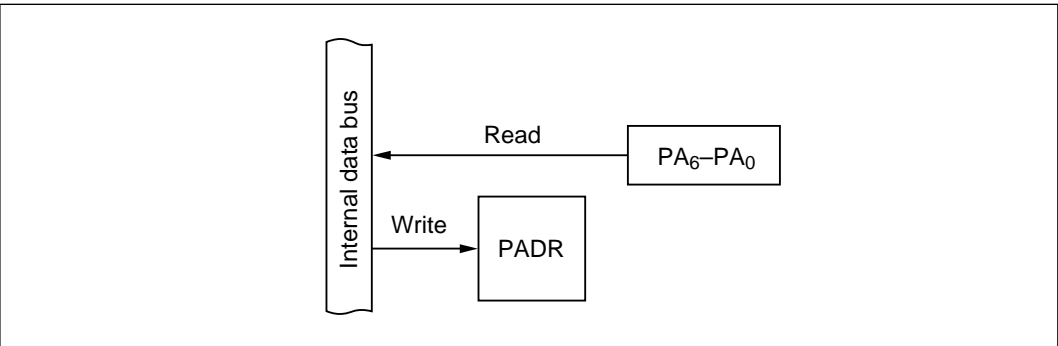

Figure 10-63 Input Port (Modes 1 to 7)
(1) Input Port (PA₆ to PA₄ in Modes 1 to 7; PA₃ to PA₀ in Modes 1, 2, 4, 6, and 7): Figure 10-63 shows a block diagram illustrating the general-purpose input function. Table 10-47 indicates register read/write data. Values written in the port A data register (PADR) have no effect on general-purpose input lines. When read, PADR returns the value at the pin.